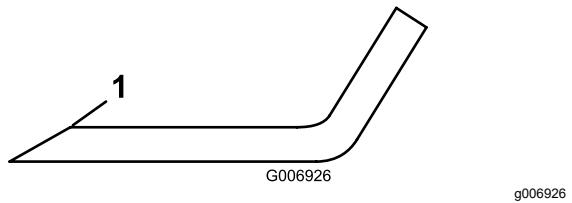

Figure 78
5. Inspect the cutting edges of all blades. Sharpen the cutting edges if they are dull or nicked. Sharpen only the top of the cutting edge and maintain the original cutting angle to make sure that it is sharp (Figure 78).
- If dull or nicked, sharpen only the top cutting edge while maintaining the original cutting angle (Figure 78).